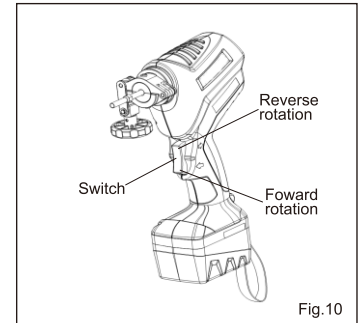

Fig.10
3.1 Start flaring by pressing and holding the lower part of the switch. Flaring will be completed within 3 seconds when you hear 3 clanks (from the clutch). (Fig.10)
3.2 Press and hold the upper part of the switch. (Fig.10)